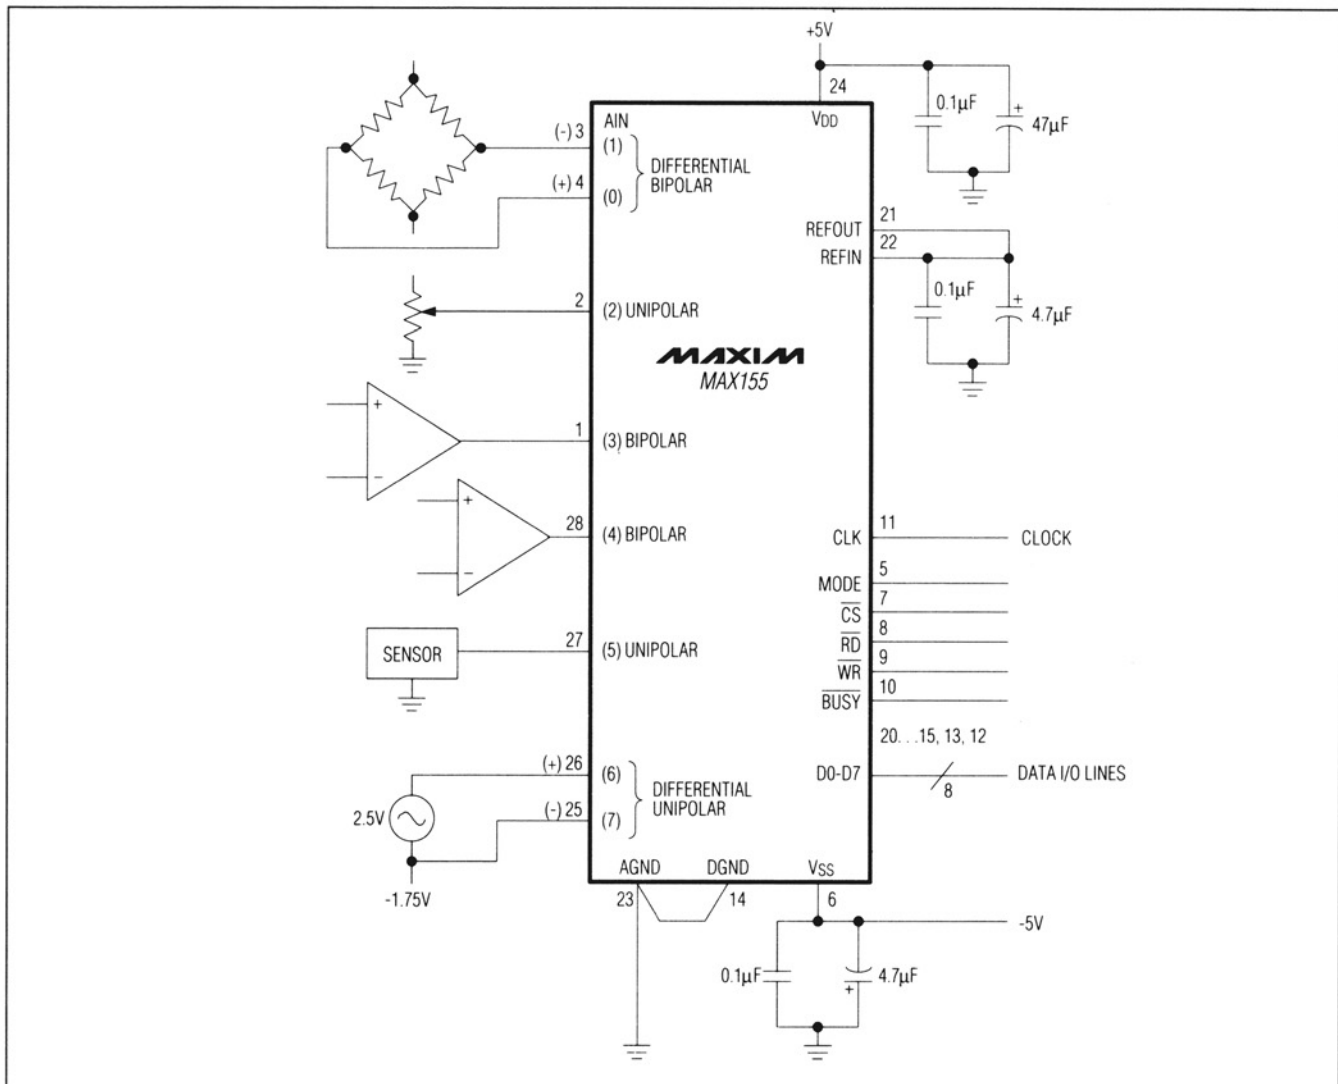

Figure 10. MAX155/MAX156 Typical Operating Circuit
where N is the number of channels converted. This includes one clock cycle of uncertainty. For a single channel and 5MHz clock, the conversion time is $(9 \times 1 \times 2) / 5MHz = 3.6\mu s$. For the MAX155, the maximum conversion time for 8 channels is $(9 \times 8 \times 2) / 5MHz = 28.8\mu s$. In the application example (Figure 10), six conversions are configured, and the conversion time is $(9 \times 6 \times 2) / 5MHz = 21.6\mu s$.
MAX155/MAX156 address and configuration inputs for this example were determined by selecting the desired channel configurations in Tables 2 and 3. Figure 10 illustrates the configuration outlined in Table 5.
3. Data is read from RAM with $\overline{INH} = L$ and consecutive \overline{RD} strobes. Note that in the 6 channel configurations described in this example (Figure 10), 6 \overline{RD} pulses access all available data, starting with the differential channel (1,0). Additional \overline{RD} pulses loop around, accessing the lowest channel data again.